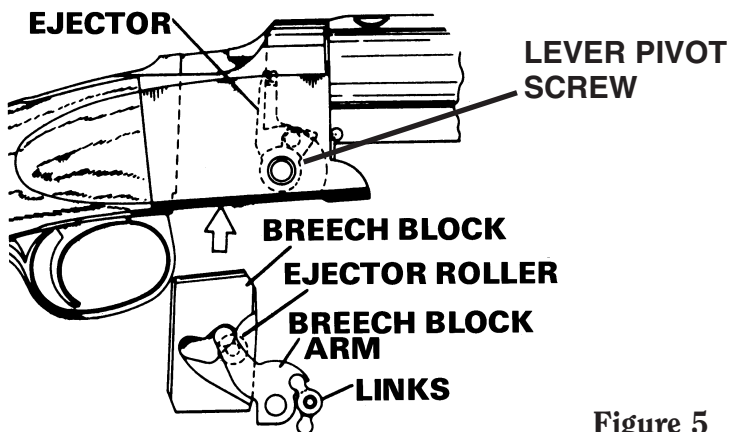

Figure 5
2. Assemble breech block, breech block arm, ejector roller and linkage as shown in Figure 5, page 18 and replace as a unit into receiver while holding the ejector against the inside receiver wall.